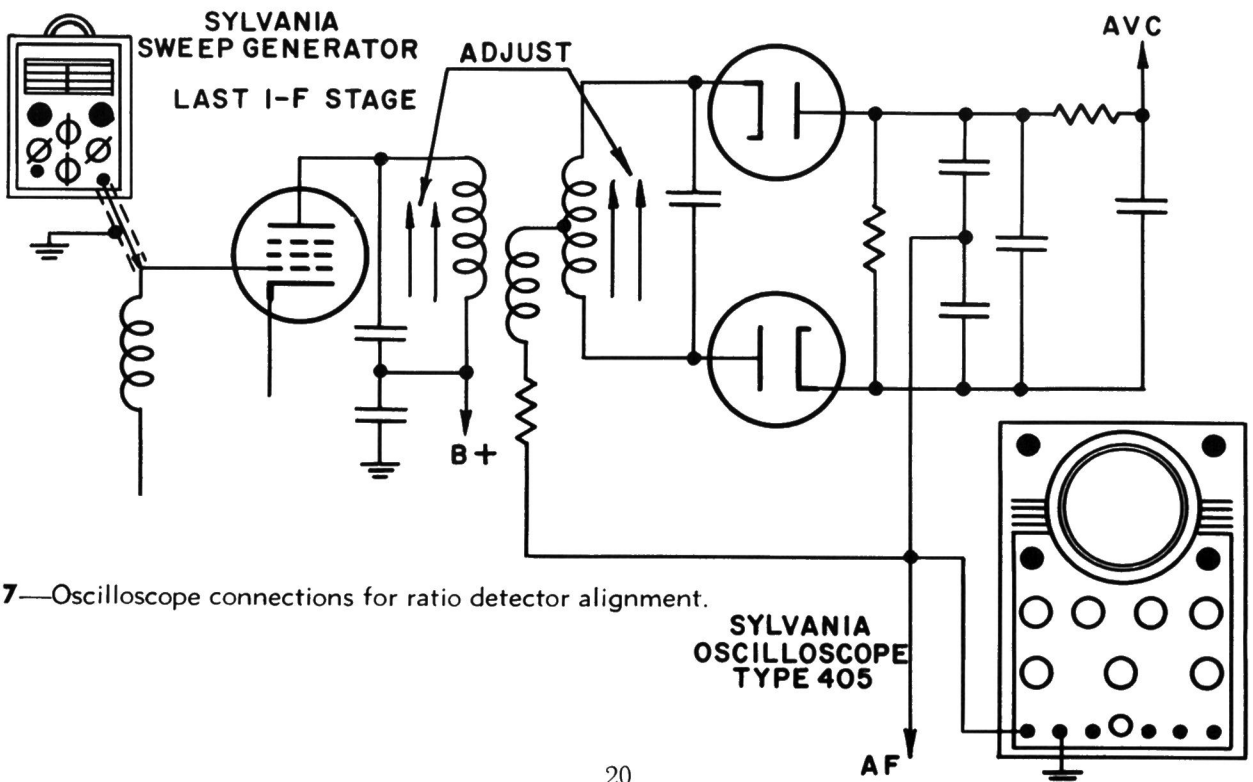

Fig. 17—Oscilloscope connections for ratio detector alignment.
except that the VERT. IN. terminal of the oscilloscope is connected through a shielded lead to the high side of the detector load resistor as shown in Fig. 17. The IF amplifier up to and including the primary of the ratio detector transformer may be aligned with this connection.
The secondary of the ratio detector transformer is aligned by transferring the VERT. IN. shielded lead to a point B in Fig. 17. The same pattern as for the discriminator alignment, Fig. 16 (A), is obtained using double the sweep frequency of the signal generator. The detector trimmers are adjusted in the same manner as for discriminator alignment to obtain the proper symmetry of the pattern. For close alignment of both primary and secondary trimmers it is necessary to work back and forth with the VERT. IN. terminal connected successively to points A and B of Fig. 17.